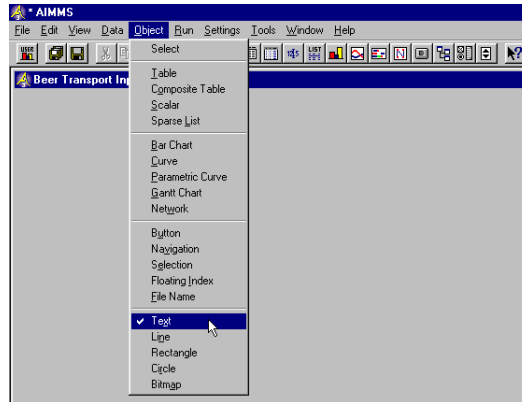

Figure 6.9: A selected area of a page
- ▶ select the **Text** command from the **Object** menu (see Figure 6.9), and draw a rectangle using the mouse,